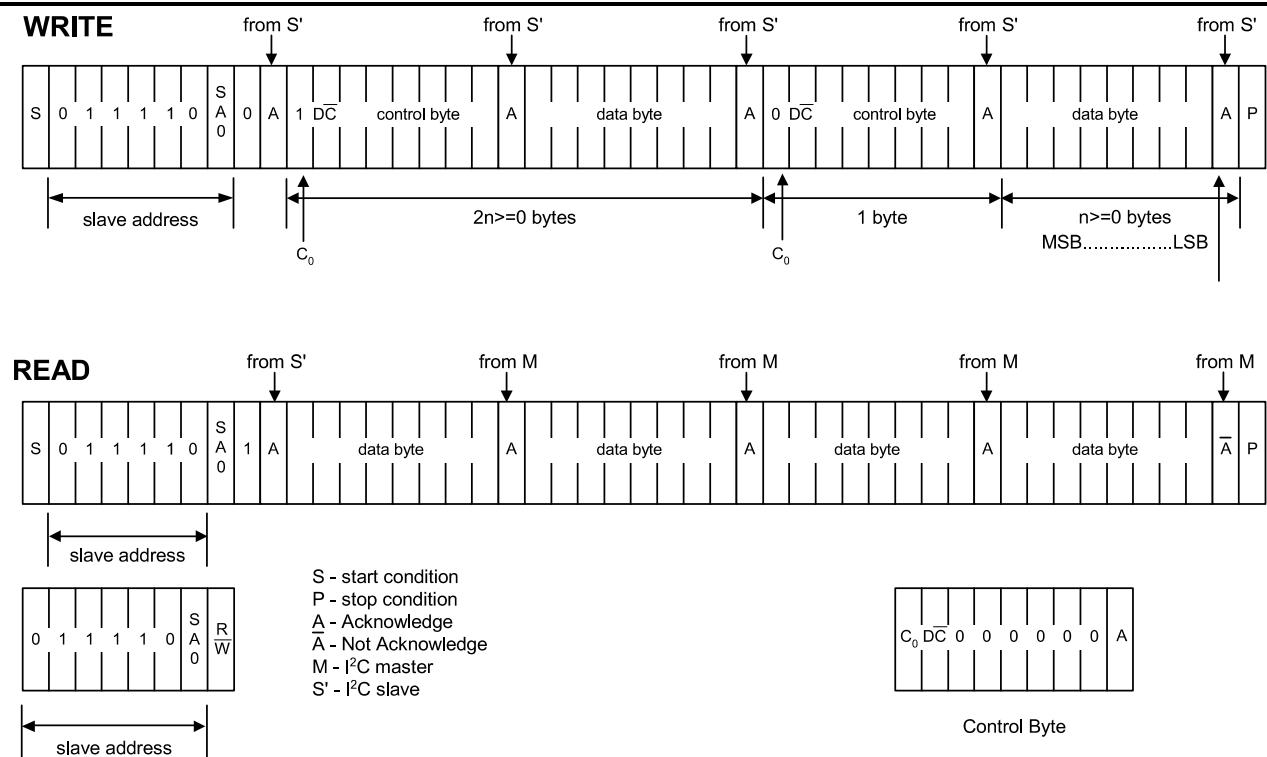

Figure 7 I2C Protocol
The SH1106 supports both read and write access. The R/W bit is part of the slave address. Before any data is transmitted on the I2C-bus, the device that should respond is addressed first. Two 7-bit slave addresses (0111100 and 0111101) are reserved for the SH1106. The least significant bit of the slave address is set by connecting the input SA0 to either logic 0(VSS) or 1(VDD1). The I2C-bus protocol is illustrated in Fig.7. The sequence is initiated with a START condition (S) from the I2C-bus master that is followed by the slave address. All slaves with the corresponding address acknowledge in parallel, all the others will ignore the I2C-bus transfer. After acknowledgement, one or more command words follow which define the status of the addressed slaves. A command word consists of a control byte, which defines Co and D/C (note1), plus a data byte (see Fig.7). The last control byte is tagged with a cleared most significant bit, the continuation bit Co. After a control byte with a cleared Co-bit, only data bytes will follow. The state of the D/C-bit defines whether the data-byte is interpreted as a command or as RAM-data. The control and data bytes are also acknowledged by all addressed slaves on the bus. After the last control byte, depending on the D/C-bit setting, either a series of display data bytes or command data bytes may follow. If the D/C-bit was set to '1', these display bytes are stored in the display RAM at the address specified by the data pointer. The data pointer is automatically updated and the data is directed to the intended SH1106 device. If the D/C-bit of the last control byte was set to '0', these command bytes will be decoded and the setting of the device will be changed according to the received commands. The acknowledgement after each byte is made only by the addressed slave. At the end of the transmission the I2C-bus master issues a stop condition (P). If the R/W bit is set to one in the slave-address, the chip will output data immediately after the slave-address according to the D/C-bit, which was sent during the last write access. If no acknowledge is generated by the master after a byte, the driver stops transferring data to the master.